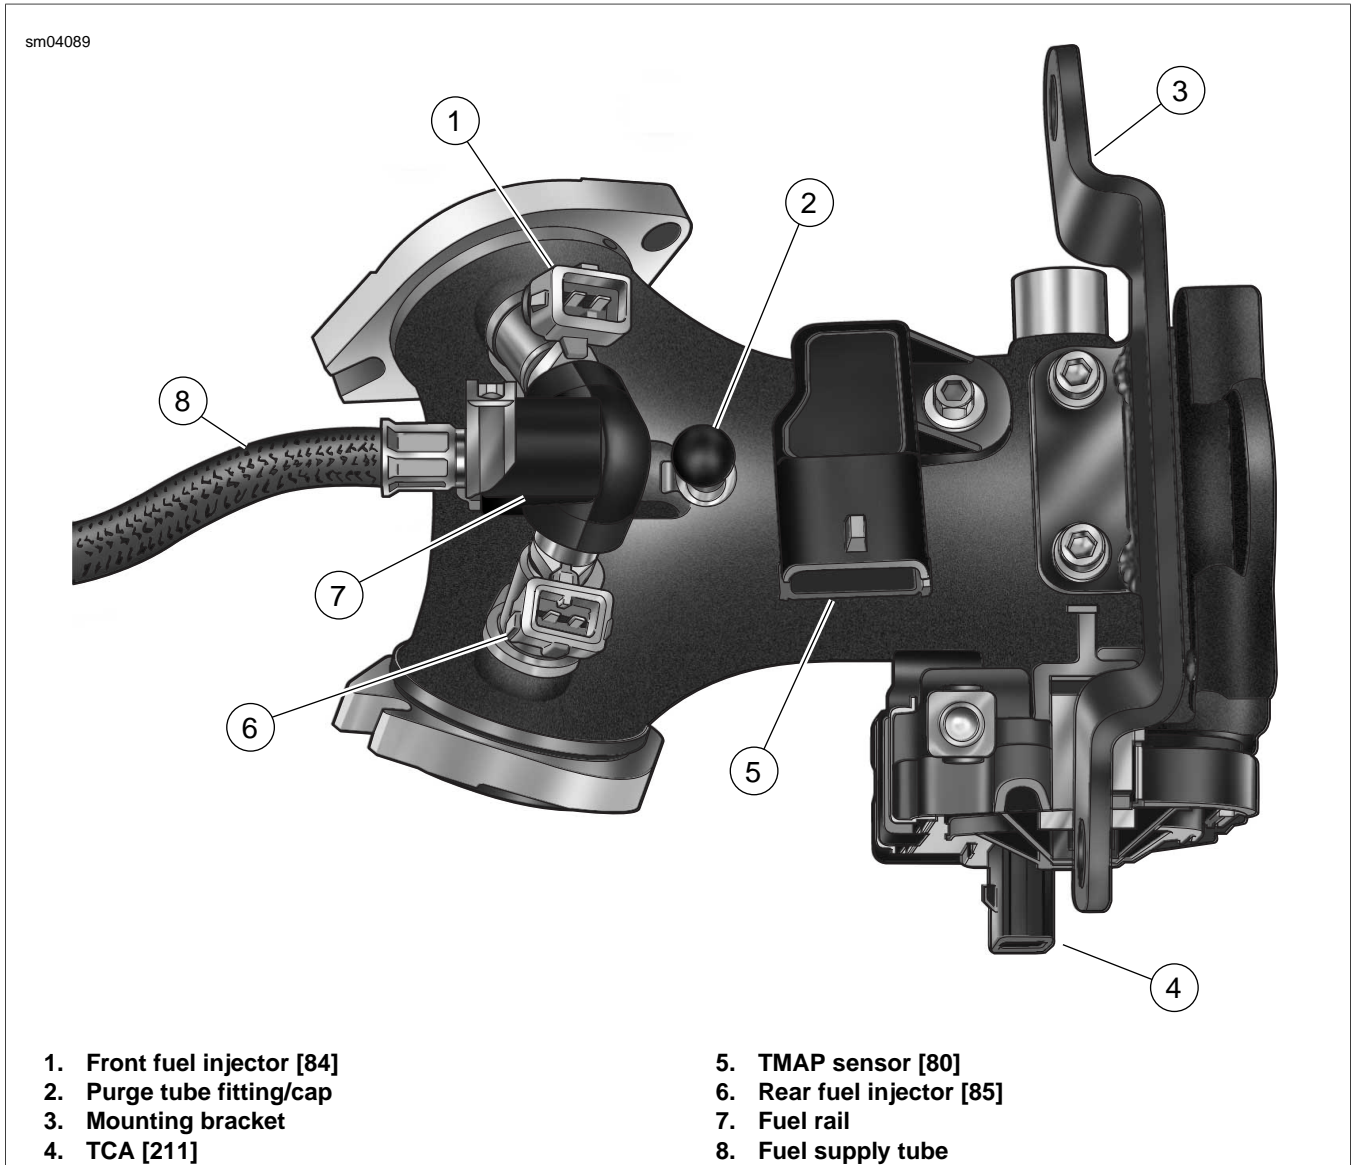
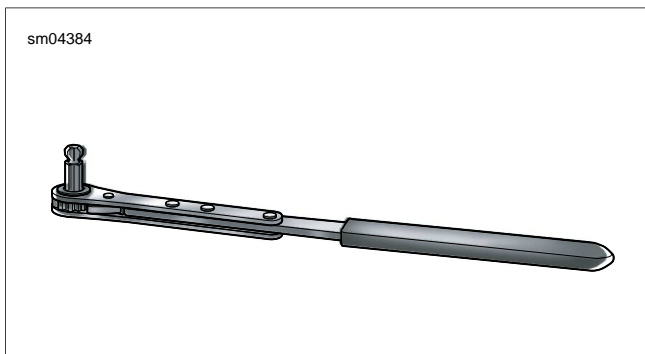

Figure 4-27. Induction Module Assembly
Figure 4-28. Intake Manifold Wrench
3. See Figure 4-27. Pull purge tube from fitting (2) at top of induction module (California models only).
4. Remove TMAP sensor connector (5).
5. Remove front fuel injector connector (1) and rear fuel injector connector (6).
6. Remove TCA connector (4). Cut anchored cable strap to release connector conduit from front right side of induction module.
7. Remove right side screws from front and rear cylinder head flange adapters. For best results, use the INTAKE MANIFOLD WRENCH (Part No. HD-47250). See Figure 4-28.
3. Orient the induction module as shown in Figure 4-27. Slide induction into position so that open-ended slots on flange adapters engage socket screws on left side.
10. See Figure 4-27. Install rear fuel injector connector (6) and front fuel injector connector (1).
11. Install TMAP sensor connector (5).
13. Route conduit rearward under induction module and install TCA connector (4). Tighten cable strap and cut any excess cable strap material.
14. Connect purge tube to fitting (2) (California models only). On non-California models, inspect rubber cap for tears, cracks or signs of deterioration. Replace cap if damaged or missing.